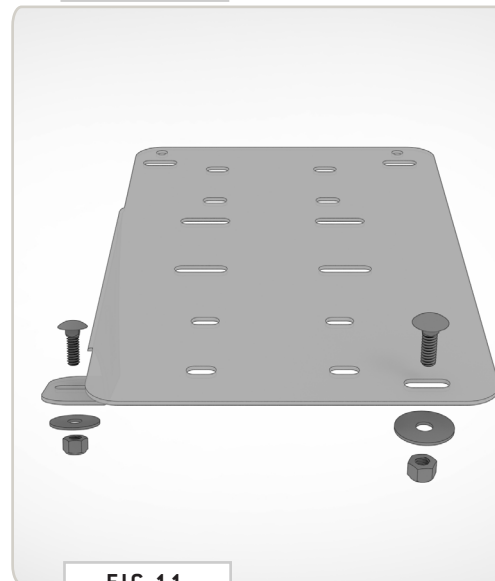

FIG 11
**3.2 Thread Carriage Bolts Through Van Body:** Thread in the supplied **1/4-20" x 0.75 Square Neck Carriage Bolts** through the pre-existing **Mounting Holes** shown in **FIG 6+7** and set loosely into place with a **1/4" Oversized Flat Washer** and **Nylon Locknut** (**FIG 11**).